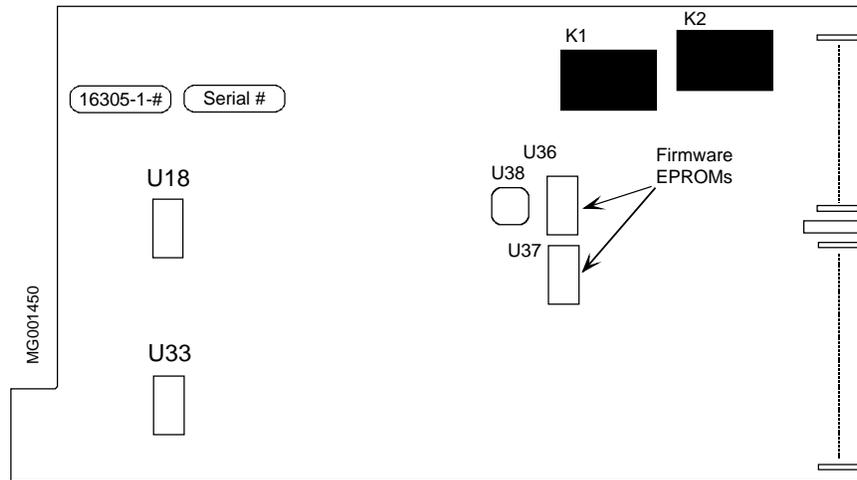

FIGURE 11-4 I/O Expander Board
3. Refer to Figure 11-4. Grasp the edge of the I/O Expander Board and pull the Board straight out of the case.